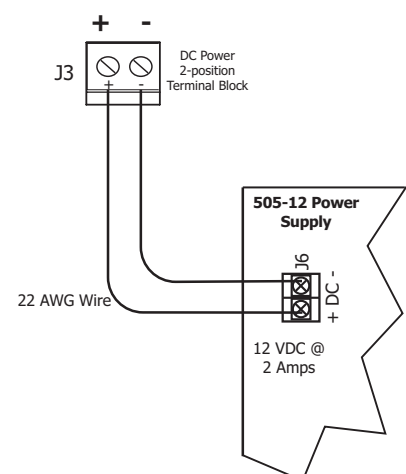

Figure 2: Power Supply Connection
1. Using 22 AWG wire, connect the DC Power 2-position Terminal Block to the DC terminal on the 505-12 power supply PCB. See Figure 2.